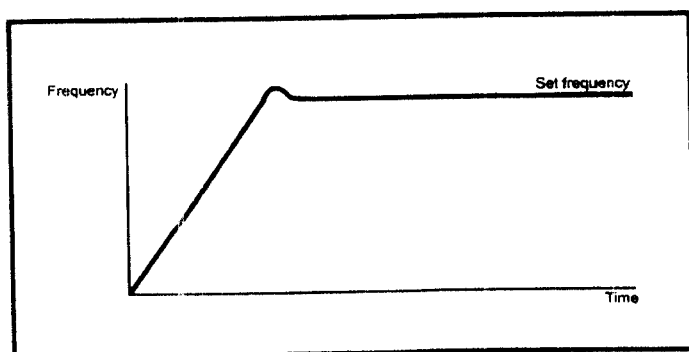

Figure 4 *Ideal response curve under PI control*
- 5 Stop the drive. Monitor the trace on the oscilloscope and re-start the drive. When optimum performance is achieved, the trace should be as shown in Figure 4.